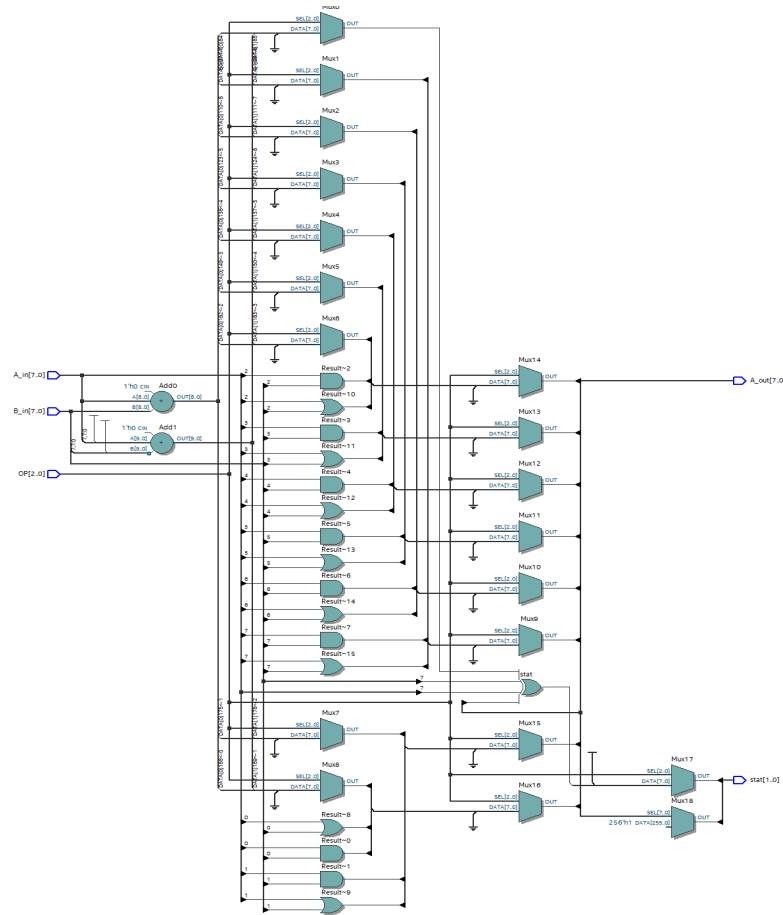

Figure 11: RTL view of ALU
**Figure 11** is the symbol for program counter with three input ports (CLK, reset and PC\_INC) and one 8 bit output port (instruction). When PC\_INC is enabled, it increments the counter by 1 at risign edge of CLK.